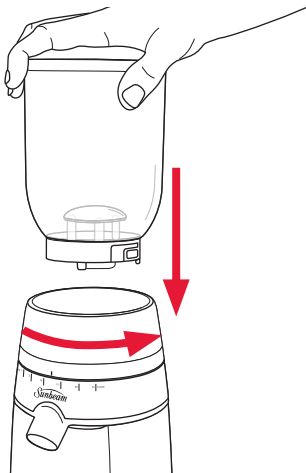

Figure 5
1. Remove the bean hopper from the motor base and store unused beans in an airtight container to preserve their freshness, see figure 5.
1. Ensure the coffee grinder is switched off and unplugged from the power outlet. Remove the bean hopper from the motor base, push down and turn anti-clockwise. See figure 5.